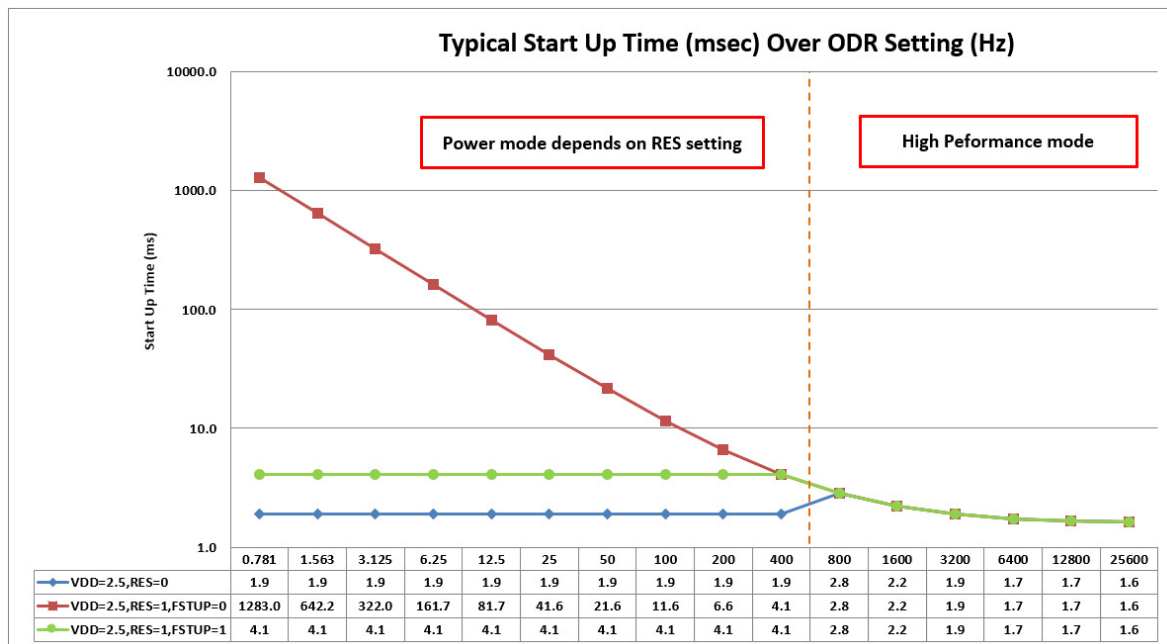

Figure 1: Start Up Time Diagram
3. Start up time is from PC1 set to valid outputs. Time varies with ODR, Power Mode, and FSTUP bit setting (see Figure 1).